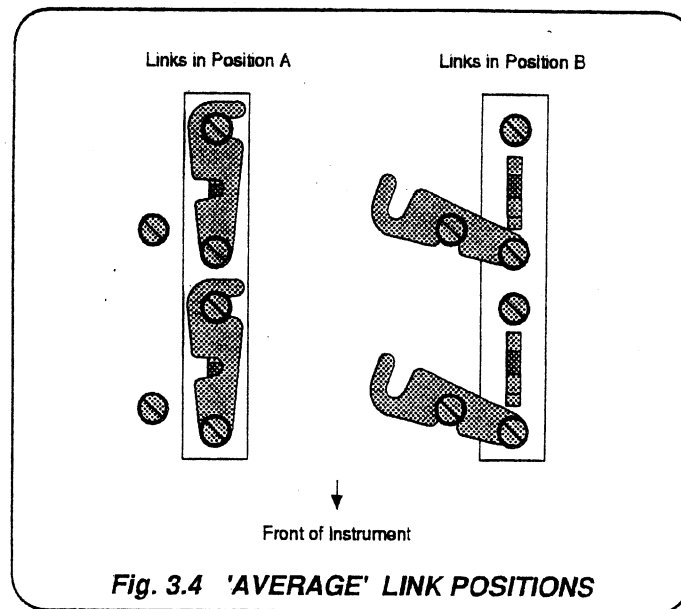

Fig. 3.4 'AVERAGE' LINK POSITIONS
3. For the cell that you wish to isolate, undo each of the six link-retaining screws by two turns - see Fig 3.4.
4. Rotate the two links from position A to position B as shown in Fig 3.4.
4. For the cell that you wish to reconnect, undo each of the six link-retaining screws by two turns - see Fig 3.4.
5. Rotate the two links from position B to position A as shown in Fig 3.4.